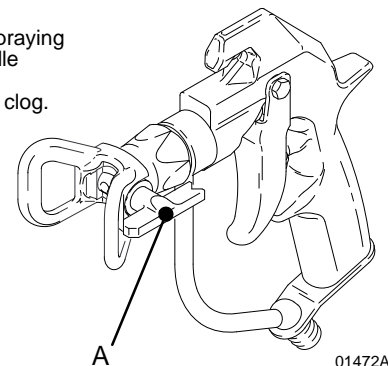

Fig. 4
1. Lock the gun trigger safety. Rotate the RAC guard handle 180°. See Fig. 4.